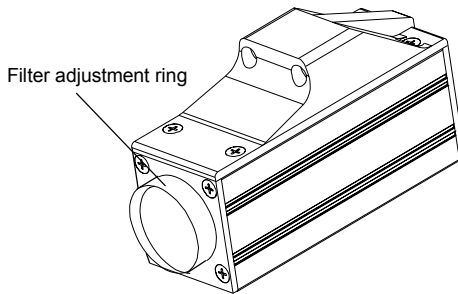

Figure 2. Polarizing Light Filter
- Adjustable polarizing light filter to optimize viewing contrast. Figure 2 shows the polarizing light filter's adjustment ring.